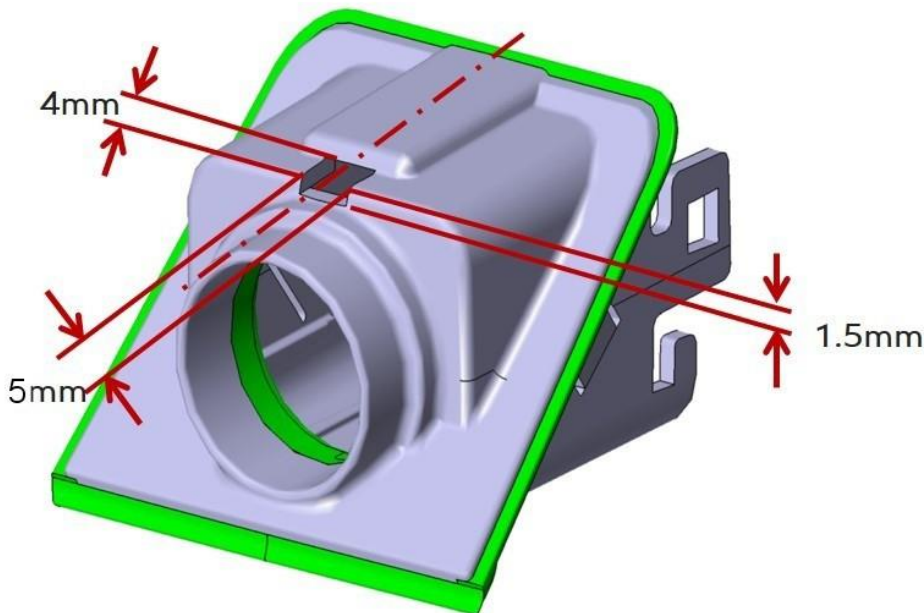

Figure 3
- Referring to Figure 3 - Use a 2.5mm drill bit to make an initial pilot hole
- Once the pilot hole has been made use a suitable file to square the hole to the dimensions shown in Figure 3 IMPORTANT: Do not exceed the given measurements